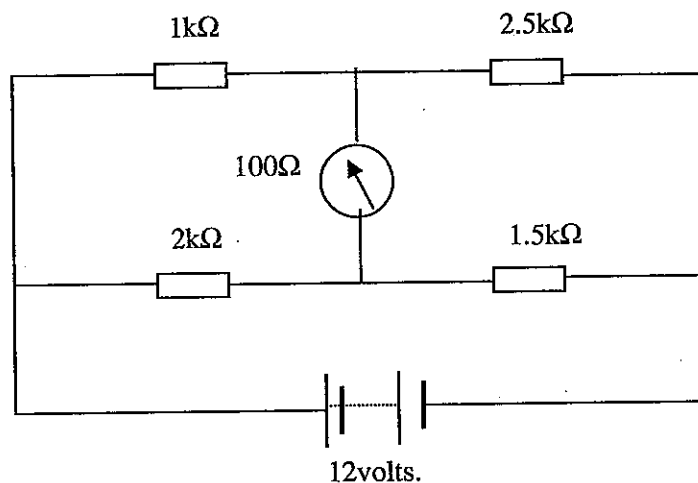

Fig Q1
1. (a) Calculate the current in the  $100\Omega$  meter in the bridge network shown in Fig Q1. (8)
- (b) Calculate the value to which the  $1k\Omega$  resistor would have to change to make the current in the meter  $1mA$  in the same direction to that calculated in Q1(a). (8)